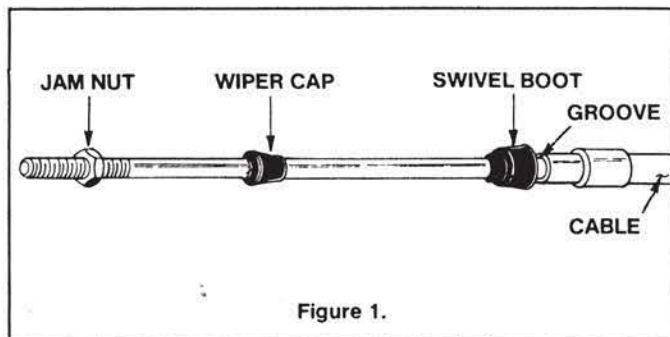

Figure 1.
Step 1. Remove Jam Nut, Wiper Cap, and Swivel Boot from one end of each cable (See Figure 1). Save Jam Nut and Wiper Cap for reuse.